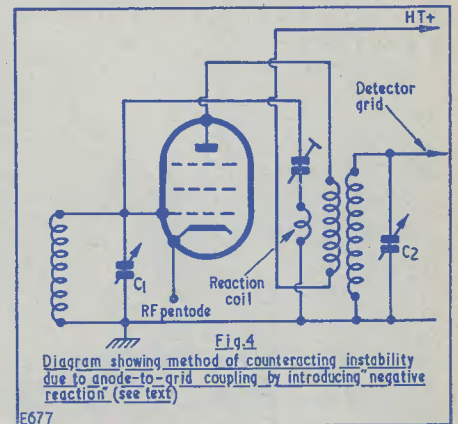

Fig. 4
aligning a straight receiver. Failing the possession of a signal generator, tune the set to a station at the bottom end of the medium wave-band, say West Home Service (206) or Luxembourg, and adjust the trimmers for optimum reception. Then rotate the dial to the top end of the tuning range and make sure that oscillation does not occur on any received signal. If it does, then a slight rotation of the trimmers one way or the other should cure it, providing all stray coupling has been reduced to a minimum during construction. It goes without saying that the unit should be separately connected to a good earth. If instability proves intractable in spite of every precaution and a blameless layout, then it is necessary to introduce the barest minimum of "negative reaction" between the anode and grid of the r.f. pentode. There is probably an existing reaction coil of which use can be made. This should be connected via a very small capacitance (a few pF) between the grid of the r.f. valve and chassis, being sure so to connect the coil that the feedback is in anti-phase. The capacitance should take the form of a preset trimmer which should be increased until the instability is cured. Failing the existence of a separate coil, a few turns should be wound on to the r.f. transformer by hand. This course should not be resorted to unless absolutely necessary because it damps the tuned circuit and considerably reduces the "Q," thus destroying the otherwise excellent selectivity. (Fig. 4).